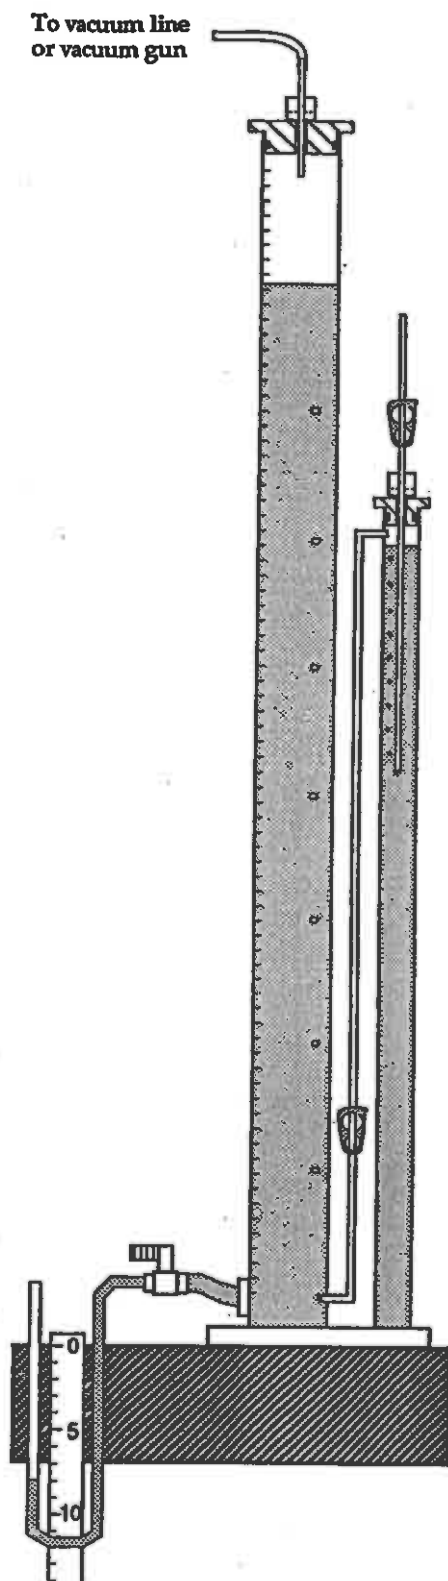

Figure 2 Calibration of surface tensions
To calibrate the air entry tube settings in the laboratory, disconnect the $1/2$ " tube between the disc and the water tower at the disc. Connect a 75 cm length of $1/4$ " or similar tygon tubing to the open end of the tube. Use a regular tubing connector for this purpose. The $1/4$ " tygon is used as a water manometer as shown in Figure 2. The water manometer is connected to the $1/2$ " tube with valve and looped over the bench top adjacent to a meter stick (Figure 2). After filling the water tower, open the $1/2$ " valve for a short time to force all air out of the manometer and out of the $1/2$ " tube to avoid calibration errors. Water will
spill out of the open end of the manometer tube. Now apply a small vacuum to the top of the water reservoir tube, such that air bubbles are seen rising in the tube. This can be done with a small hand pump available from SMS, or better with a regulated vacuum source. Then open the tubing clamp on the tubing between the water tower and the bubble tower, as well as the tubing clamp on the short end of tubing on top of the air entry tube. Slide the air entry tube up or down until the desired tension on the manometer is reached. Tension is read directly off the meter stick taped to the bench top edge. The bench top is the zero reference, which represents the soil surface. The vertical distance between the bench top and the water level in the left arm of the manometer represents the tension (in cm water) that will be applied to the soil surface. Figure 2 shows the infiltrometer at 8.0 cm water tension. To accomplish this, the air entry tube had to be set at about 12 cm below the water level in the bubble tower.
7. Attach tygon tubing to the valve and bend it under the bench in front to a meter stick to make a manometer (see Figure 2).